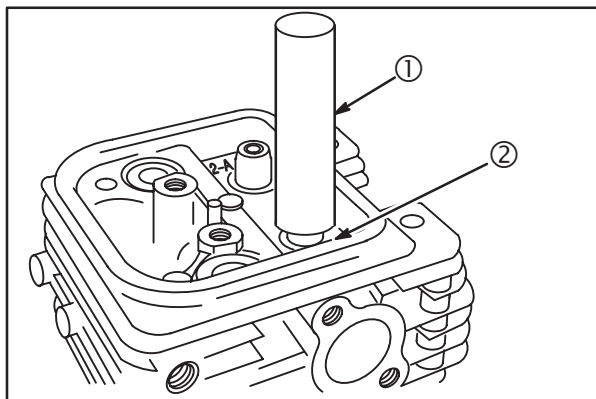

Fig. 17
1. Use Valve Guide Driver (1) **#19416** to install new valve stem seals (2), **Fig. 17**.